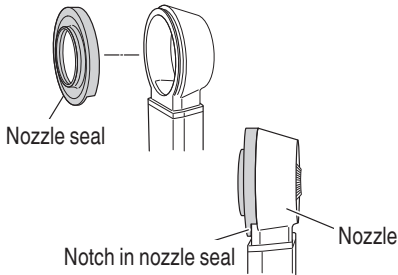

Fig. 26
- (3) Attach the filter cover.
7. Replacing the nozzle seal and brush cap (Fig. 26, 27)
- (a) Replacing the nozzle seal (Fig. 26)